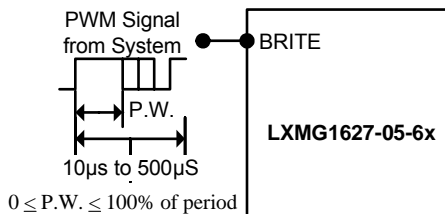

Figure 1A – PWM Brightness Control
- The brightness control may be a voltage output DAC or other voltage source, a digital pot or 500k manual pot. The inverter contains an internal 309k pull-up to typically 4.2V to bias the pot. A PWM logic level signal (figure 1A) may be used up to 5V; however the inverter will reach maximum current at less than 100% duty cycle. This can be calculated as approximately 2.3V divided by the logic high voltage level; with 3.3V logic level this corresponds to about 70% duty cycle for maximum lamp current.